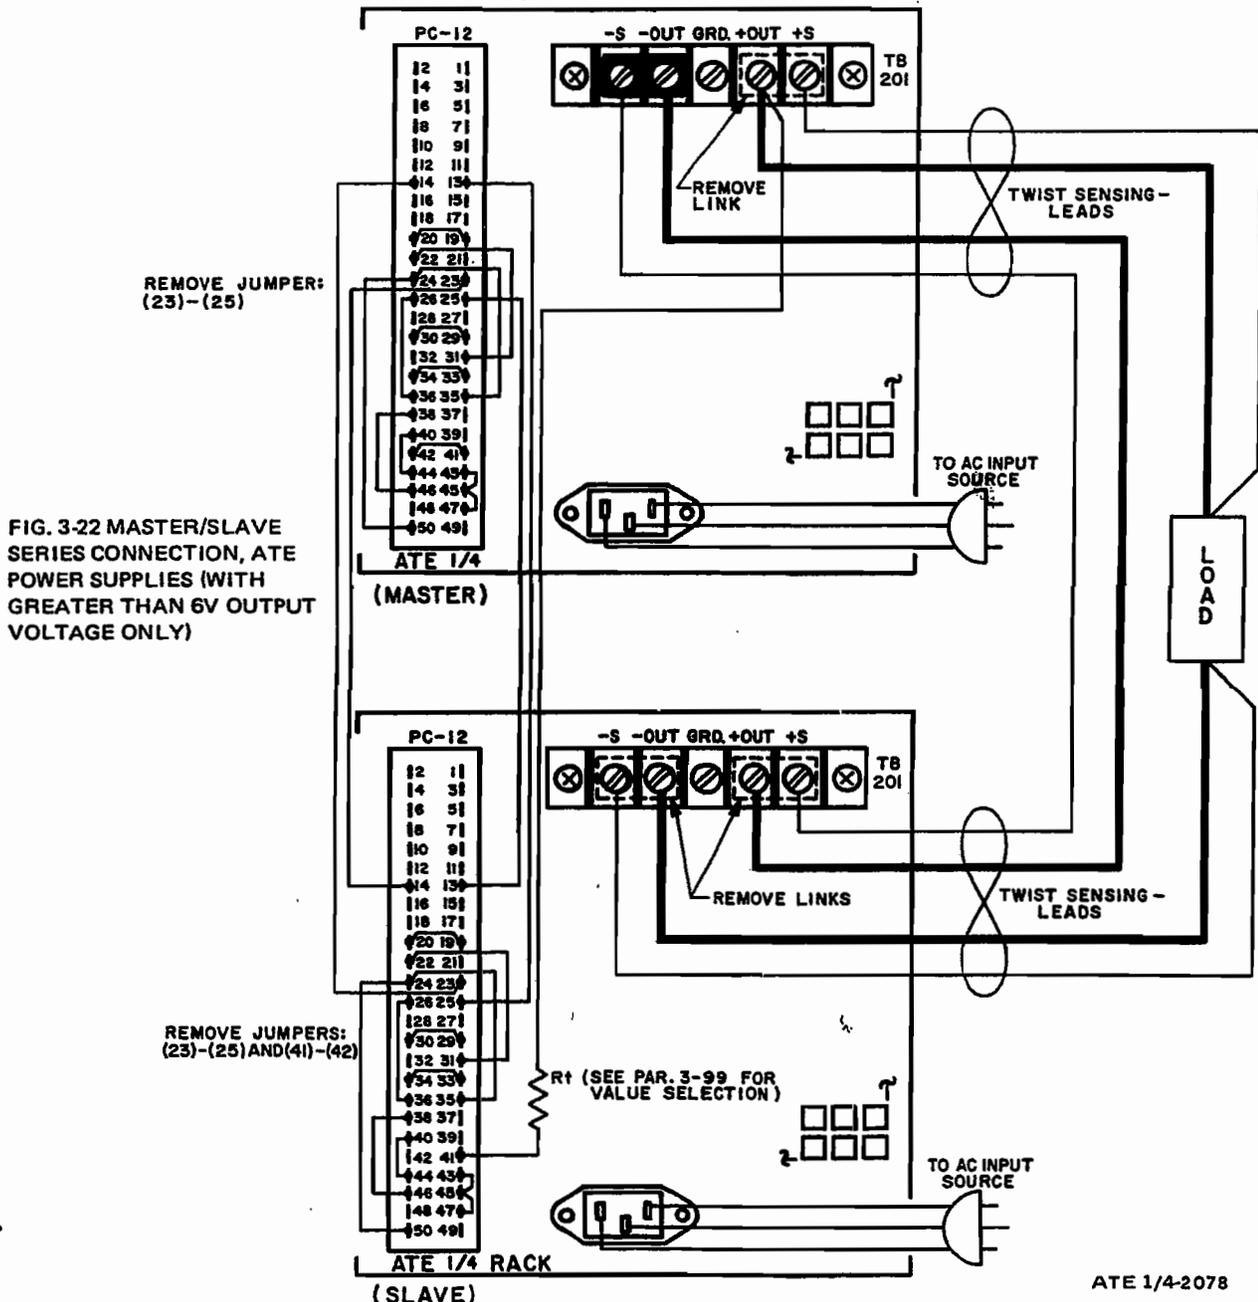

FIG. 3-22 MASTER/SLAVE SERIES CONNECTION, ATE POWER SUPPLIES (WITH GREATER THAN 6V OUTPUT VOLTAGE ONLY)
$R_t = \frac{55V}{1\text{mA}} - 10\text{K} = 45\text{K ohms}$ , and connecting the system as shown in FIG. 3-22 will produce the desired result.
- 3) Interconnect power supplies as shown in FIG. 3-22. Note: Only one SLAVE unit is shown, but more can be added. Turn MASTER supply VOLTAGE CONTROL to its maximum counterclockwise position.